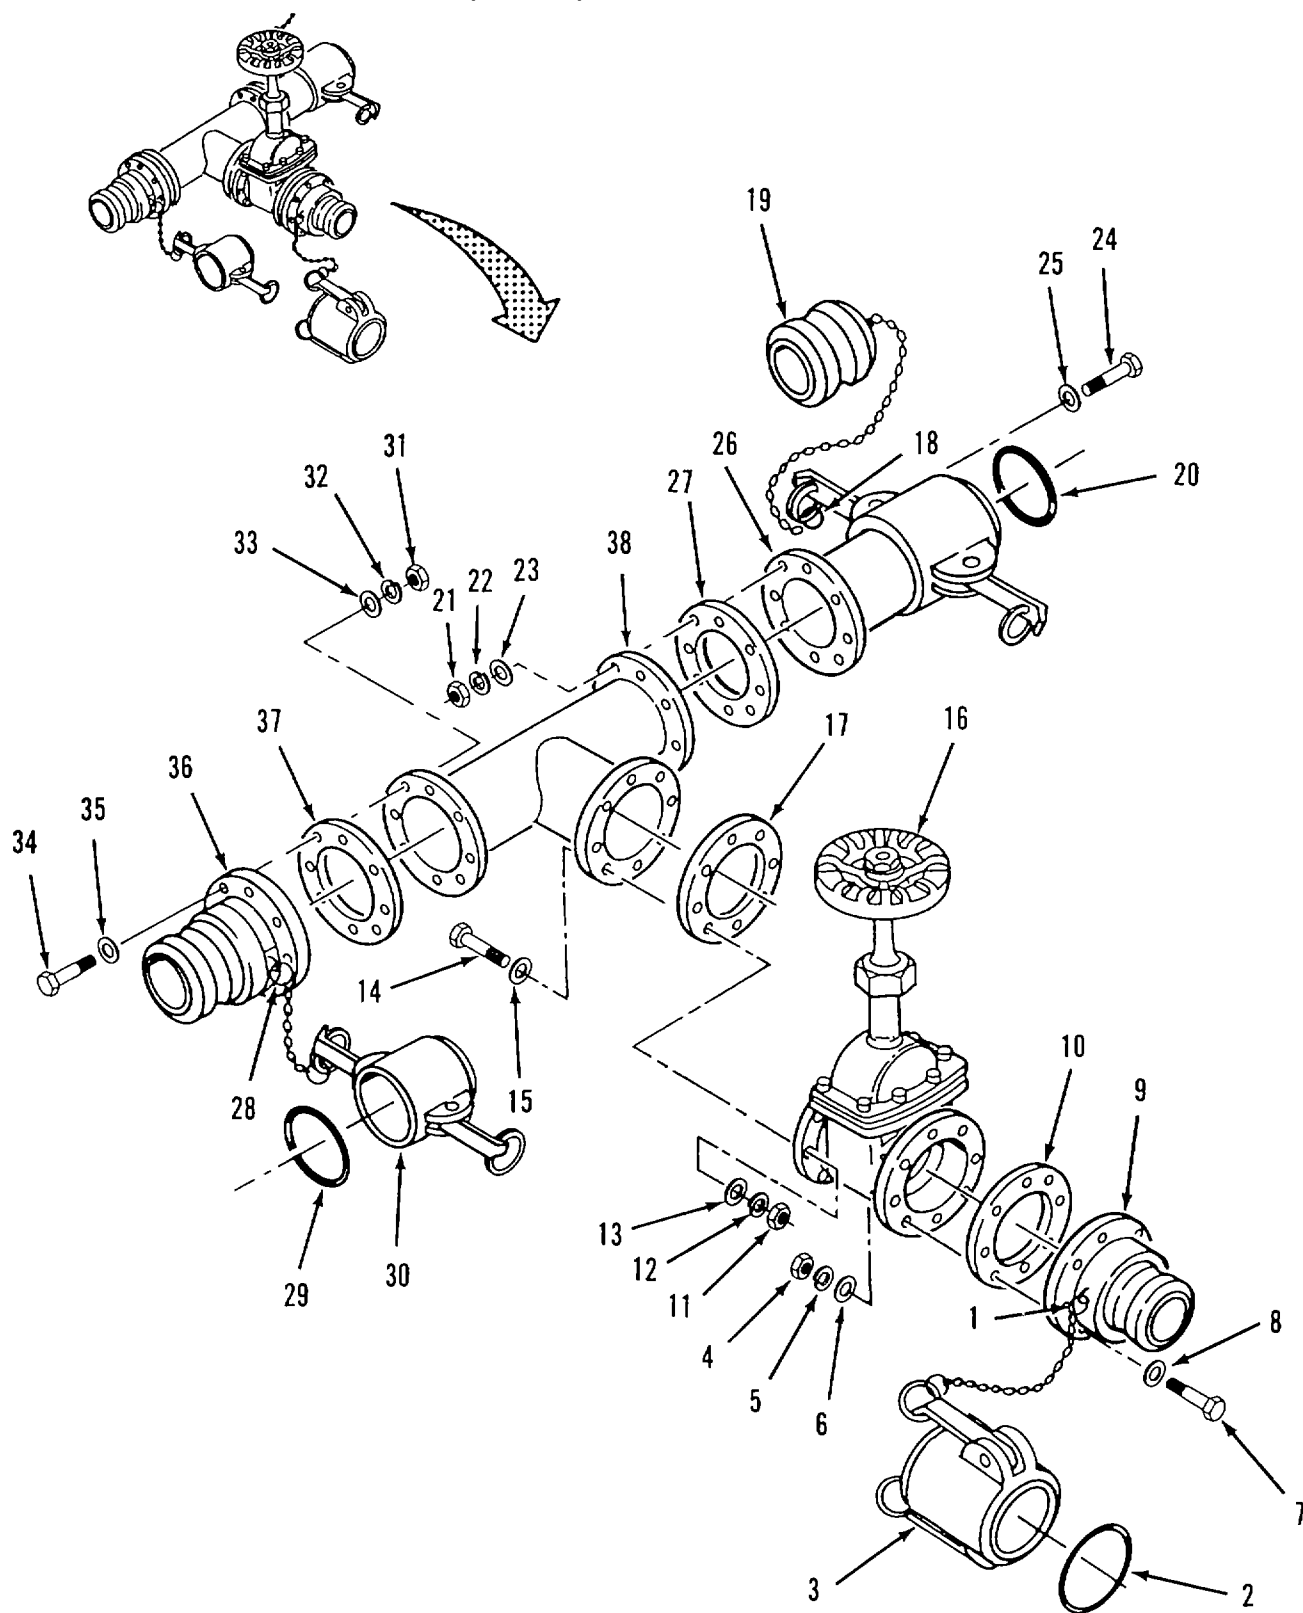

Figure 4-32. Tee and Gate Valve Assembly (9114-Y1) Assembly.
- (1) Refer to para 4-27 to repair gate valve.
- (2) Replace defective components Do not reuse sealing components.
e. Assembly. Refer to figure 4-32.
- (1) Position gasket (37) and male coupling (36) on tee (38).
- (2) Install eight flat washers (35), screws (34), flat washers (33), lockwashers (32) and nuts (31).